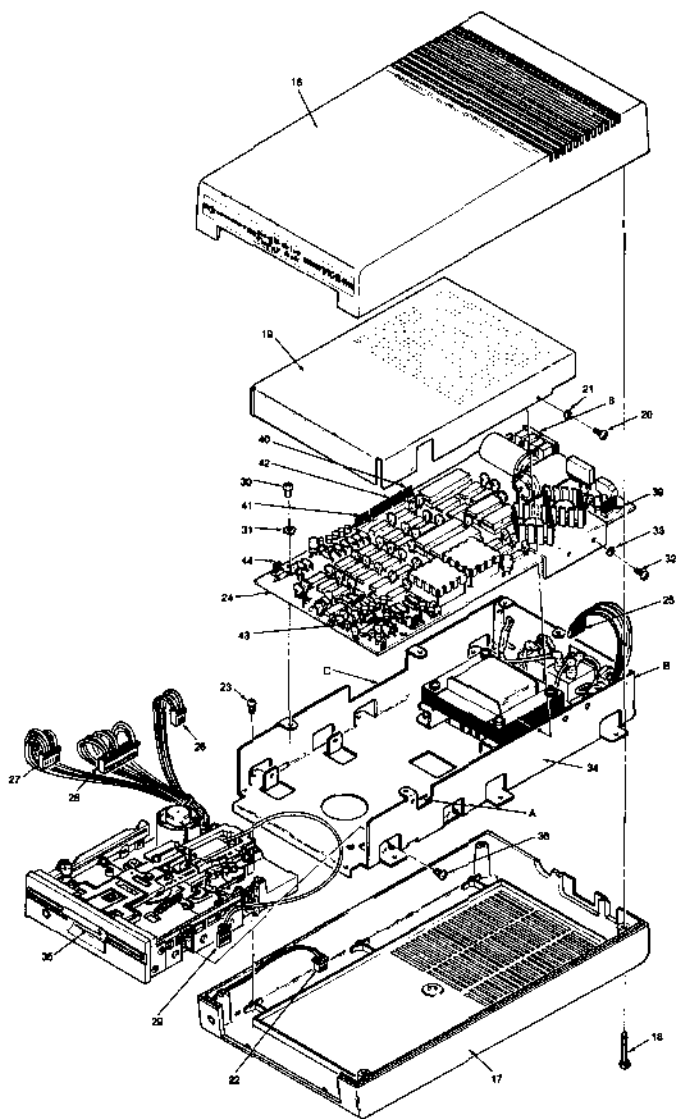
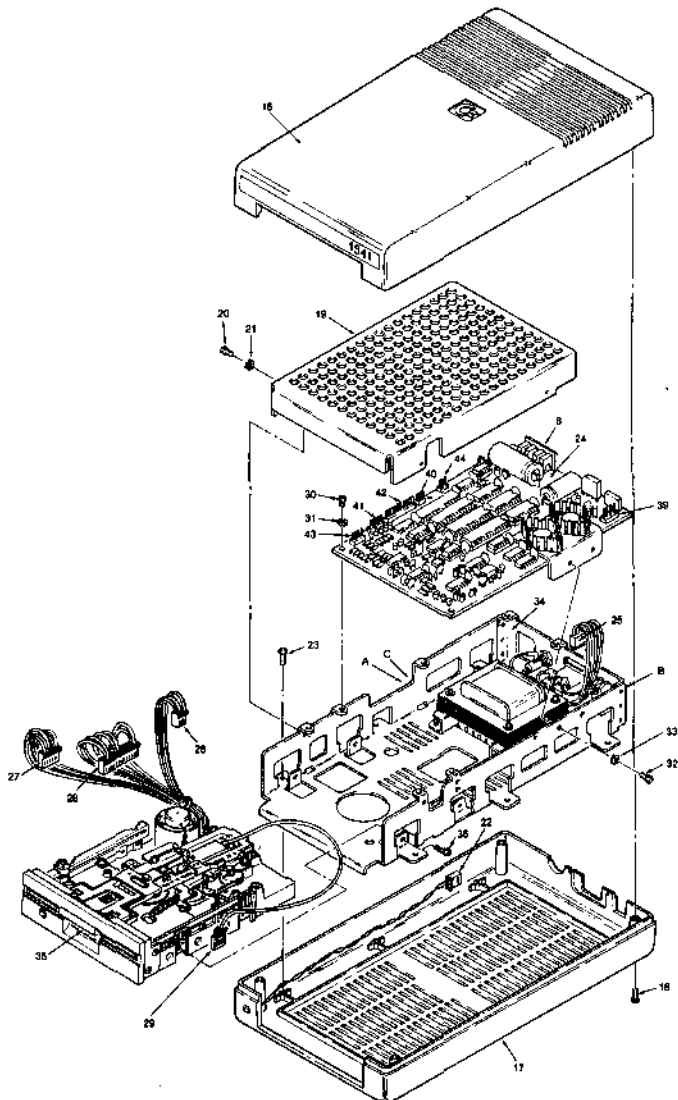
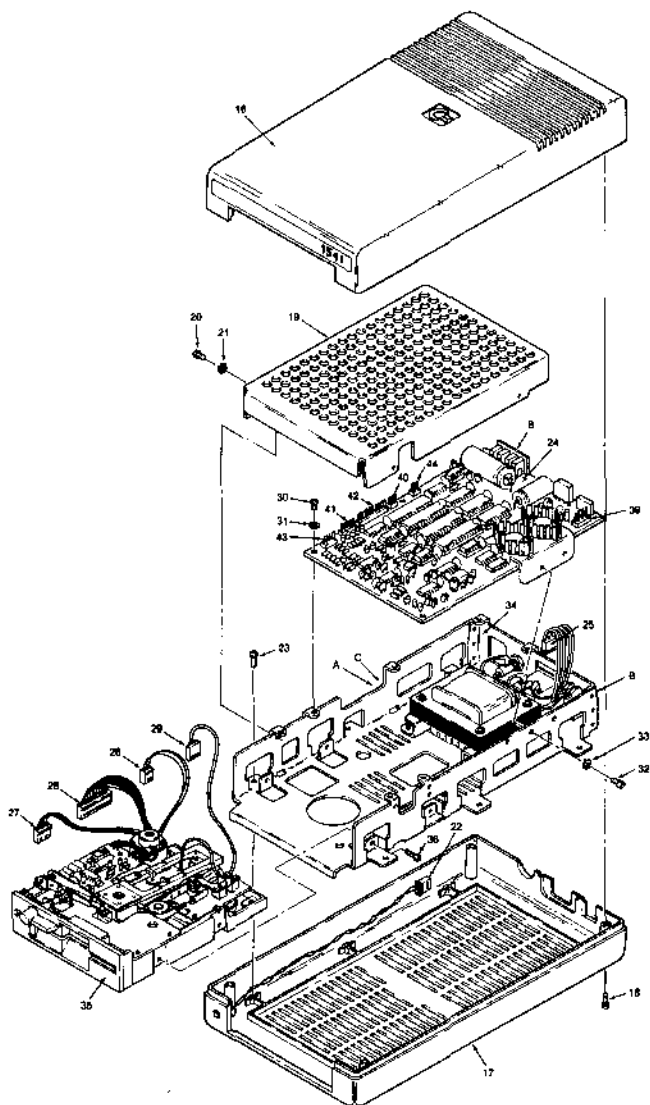

Fig. 3-5. Alignment setup, Model 1540.
Fig. 3-6. Alignment setup, Model 1541.
Fig. 3-7. Alignment setup, Model 1542.
3. Connect five female connectors (Items 25 through 29) to their mating connectors (Items 39 through 43, respectively). (See Fig. 3-5 for the 1540, Fig. 3-6 for the 1541, and Fig. 3-7 for the 1542.) See Section 1.3.3 for proper connector orientation. Place these subassemblies in such a fashion as to allow access to the bottom of the drive unit while not allowing the PC board components to contact any metal parts.
3. Connect five female connectors (Items 25 through 29) to their mating male connectors (Items 39 through 43, respectively). (See Fig. 3-5 for the 1540, Fig. 3-6 for the 1541, and Fig. 3-7 for the 1542.) See Section 1.3.3 for proper connector orientation. Place these subassemblies in such a fashion as to allow access to the bottom of the drive unit while not allowing the PC board components to contact any metal parts.